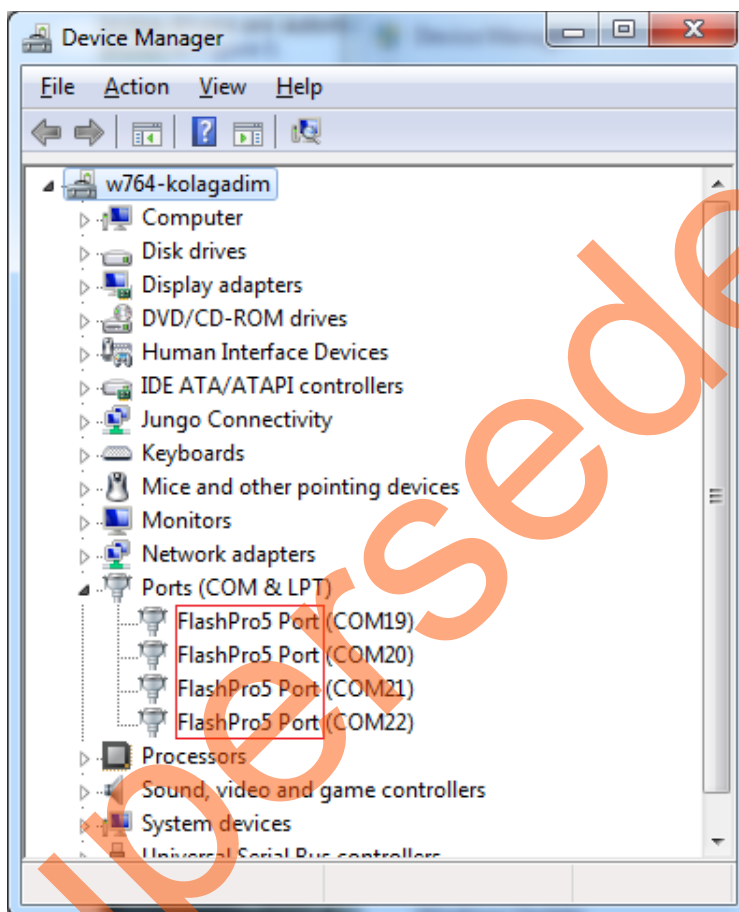

Figure 3 • Device Manager
1. Connect the Host PC to the **J33** Connector using the USB A to mini-B cable. The USB to UART bridge drivers are automatically detected. Verify, if the detection is made in the device manager as shown in Figure 3.